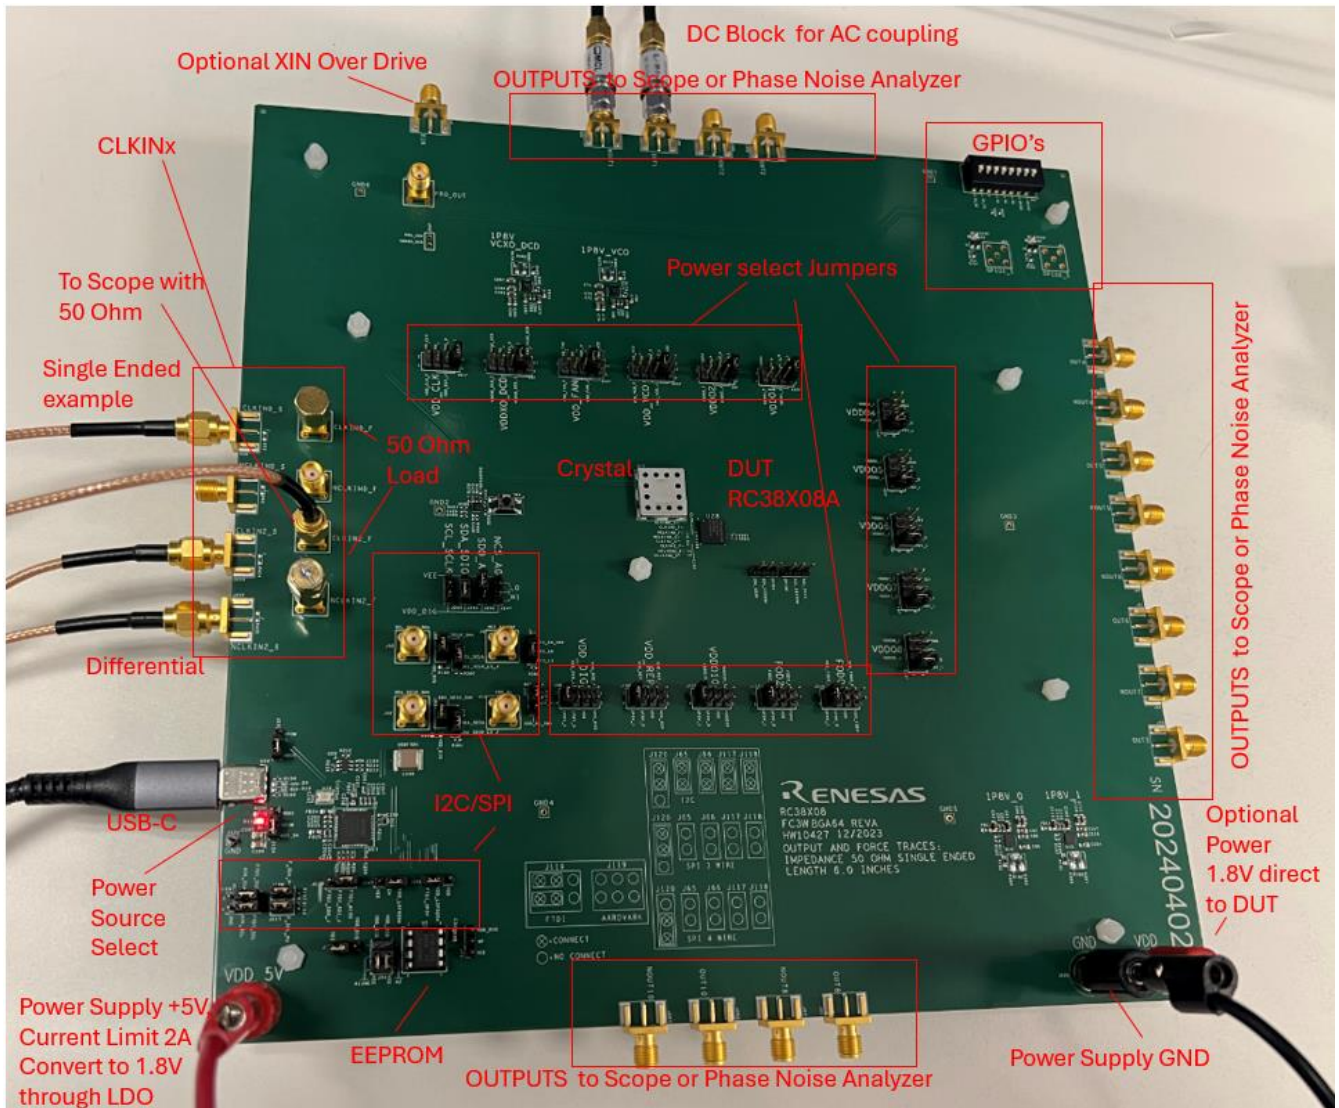

Figure 2. Evaluation Board – General Setup
The following sections describe the crystal, input clock, serial, GPIO, and output and power functions used for setting up device testing. The jumper setup example is shown in Figure 2.
- **Power Supply** – Use 5V\_VDD with on-board LDO to generate 1.8V power rail. See Figure 2 for power select jumper settings (the J90 VDD = 1.8V setting is not used this example).
- **CLKx Inputs** – The CLKx inputs are AC-coupled by default and can accept either differential input or single-ended input. The **CLKx** input has no on-board 50Ω termination. If the signal source, for example, lab equipment requires 50Ω to GND termination at the receiver, the Sense connectors are provided for lab equipment monitoring (e.g., scope with 50Ω input for monitoring the CLK input signal). If the sense connector is not used, then a dummy 50Ω load is required (see Figure 2) at the sense. The CLK0 input shows a 1.8V LVCMOS single-ended input. A 50Ohm dummy load is provided at the Sense. The CLK2 input shows a differential input. Once the Sense through Coax cable is connected to a scope with 50Ohm input channel, the other Sense can provide a 50-Ohm dummy loaded.